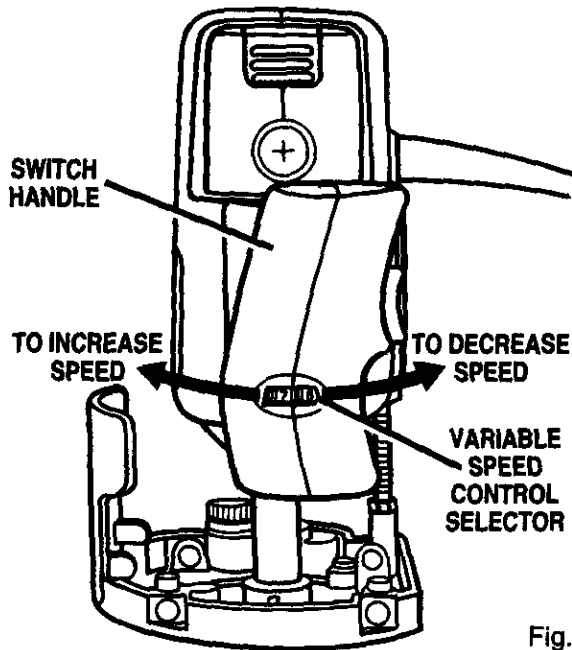

Fig. 11
See Figure 11.
- Choose the desired speed from the speed selection chart. See Figure 11.